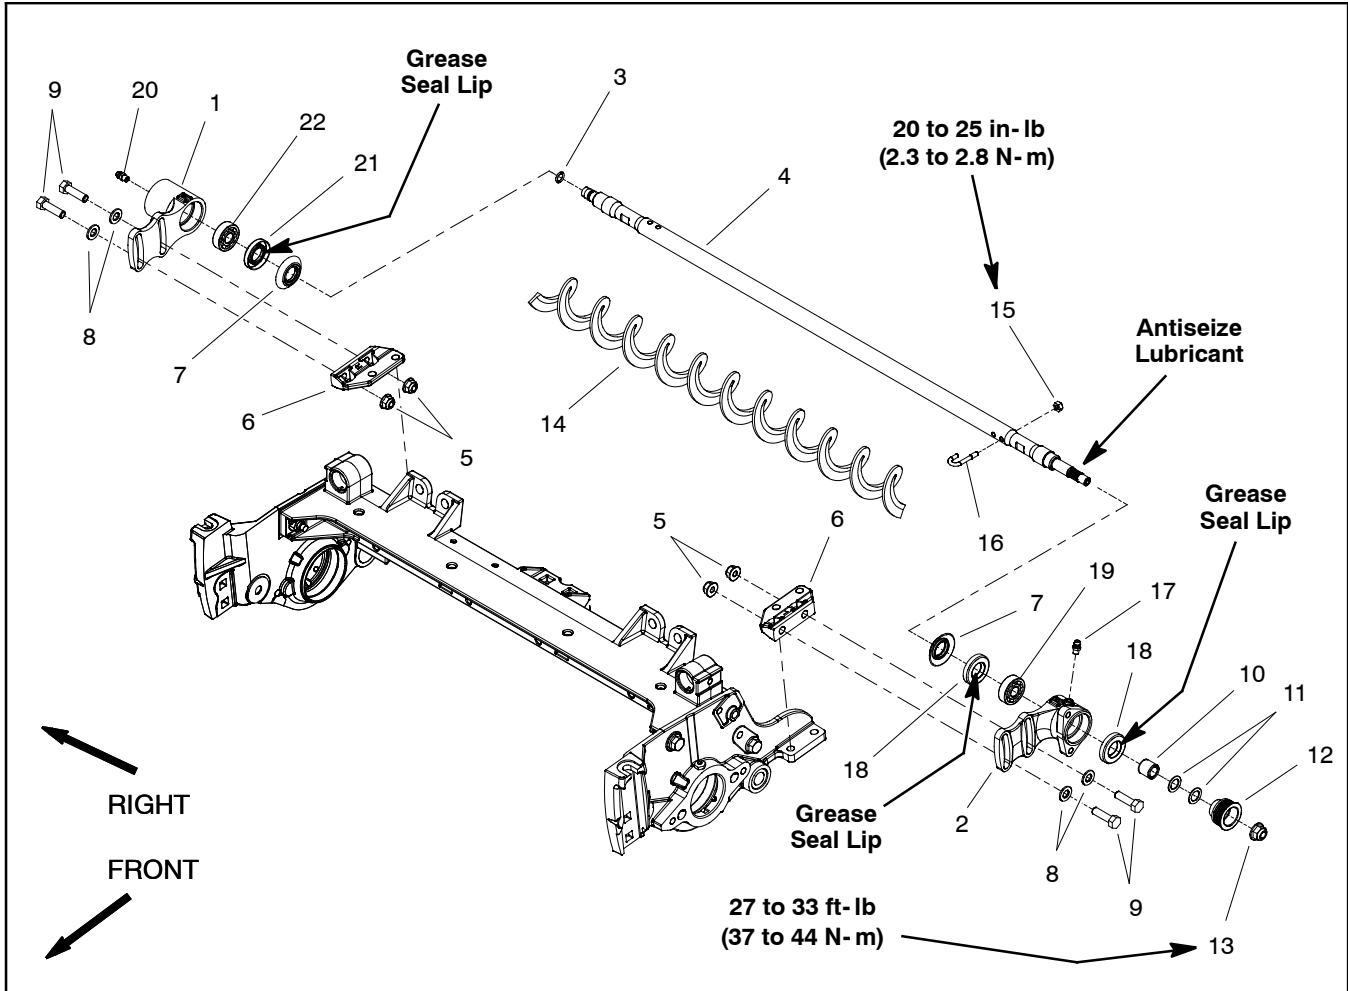
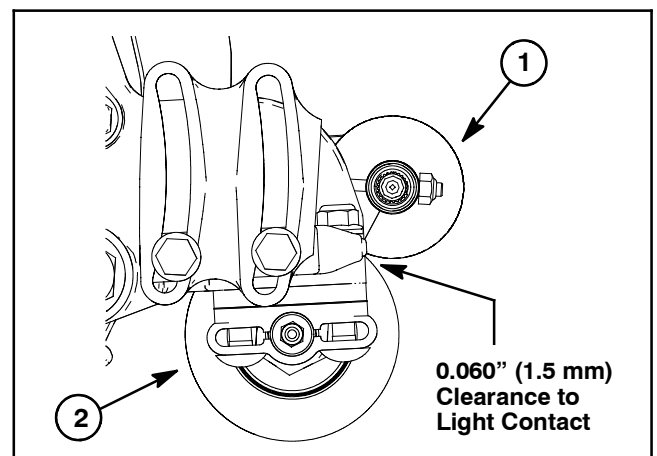

Figure 44
Figure 47
NOTE: Drive components for the rear roller brush are located on the opposite side of the cutting unit from the cutting reel motor. Figure 44 shows components used when the brush drive is on the left side of the cutting unit.
Disassembly (Fig. 44)
A. Remove the non-drive brush bearing housing (item 1) from cutting unit.
4. Disassemble roller brush components as necessary using Figures 44 as a guide. If drive brush bearing housing (item 2) or driven pulley (item 12) need to be removed, brush cover and drive belt removal will be necessary (see Rear Roller Brush Drive System in this section).
Assembly (Fig. 44)
3. Assemble roller brush components using Figure 44 as a guide noting the following items:
B. If driven pulley (item 12) was removed from roller brush shaft, apply antiseize lubricant to splines of pulley bore and slide pulley onto shaft. Install and tighten flange nut until pulley is seated onto shaft and then torque flange nut from **27 to 33 ft-lb (37 to 44 N-m)**. Use a ½ wrench on roller brush shaft flats to prevent shaft from rotating when tightening nut.
D. If driven pulley (item 12) was removed, check and adjust alignment of drive and driven pulleys (see Rear Roller Brush Drive System in this section).
4. Check that brush is parallel to rear roller with 0.060" (1.5 mm) clearance to light contact with rear roller (Fig. 47). If contact is incorrect, brush operation will be adversely affected.